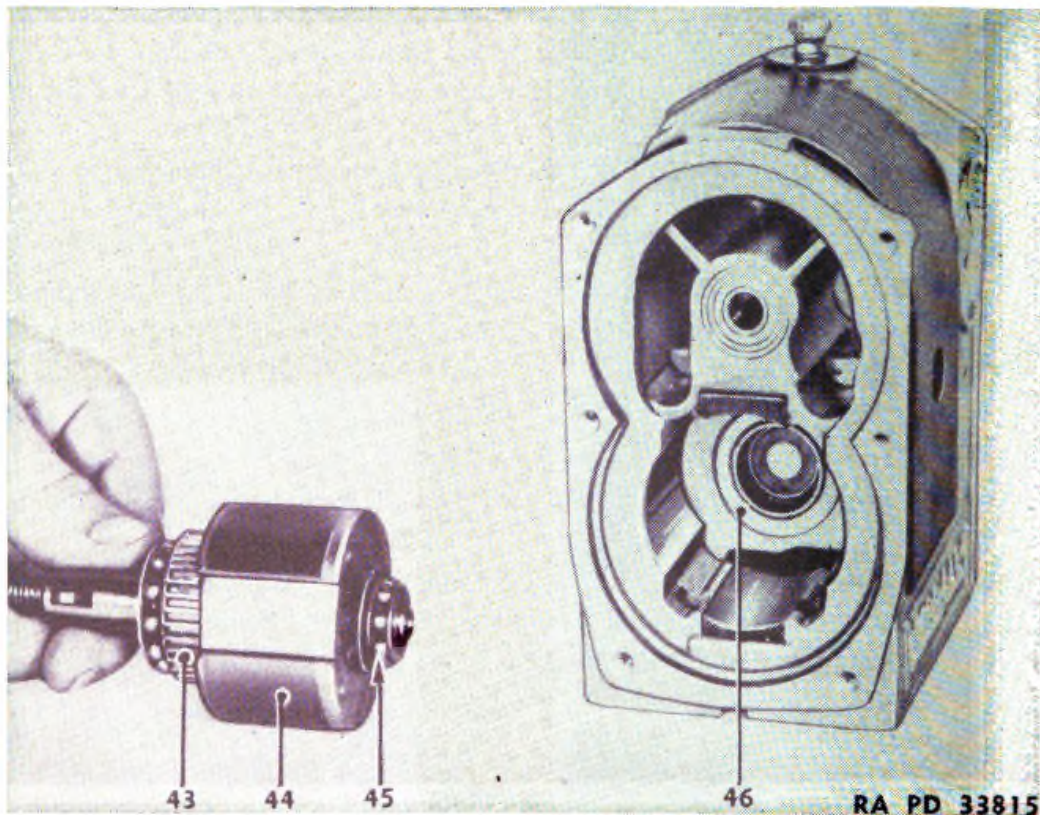

FIGURE 99.—Rotor gear and bearing removal.
d. Be sure to aline timing marks on rotor, gear (43) (fig. 99) and distributor gear when reassembling.
98. Induction rotor and gear.—*a.* With distributor gear removed, the induction rotor will slide out. The rotor gear and bearing (43) (fig. 99) may be driven off by using forked drift (19986). The race alone can be removed by pulling with the Universal puller with chuck (19973). Drift (19985) will install either the race or the gear.
c. The bearing race (45) (fig. 99) can be pulled using the Universal puller with chuck (19971). Drift (19984) (fig. 95①) should be used to install this race.
d. Drift (19982) with support (19983) will remove the outer race (46) (fig. 99) from the housing. Arbor (19980), fixture (19981), and base plate (19988) should be used to install the race.